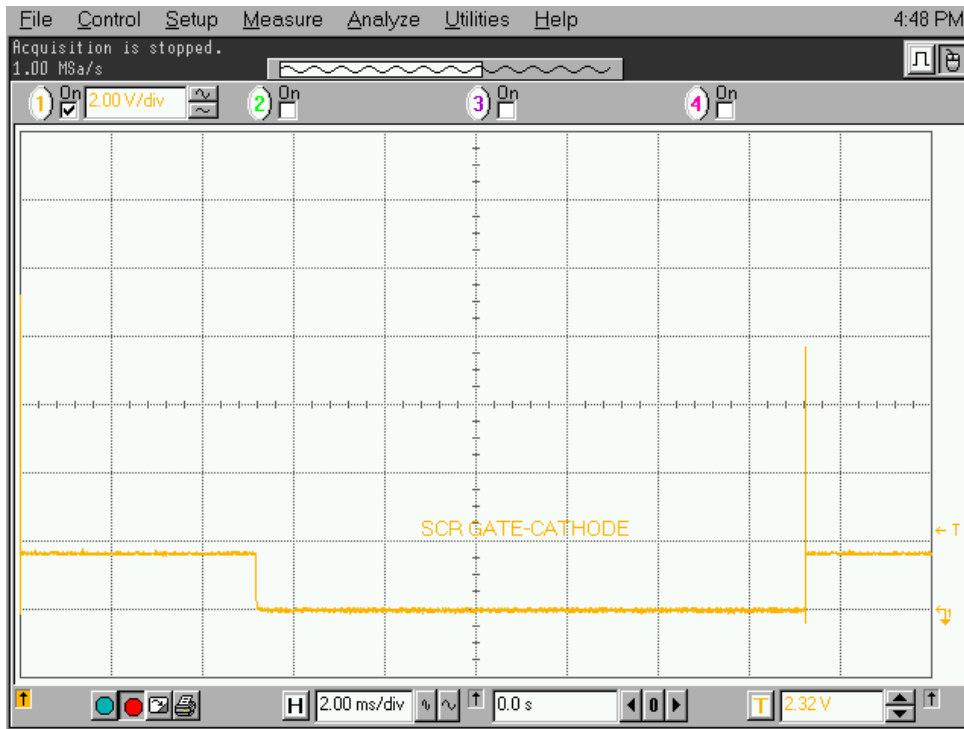

Figure 6.35 – SCR gating pulse
19. Verify that the signal between TP1 and TP2 is as shown in Figures 6.35 and 6.36.